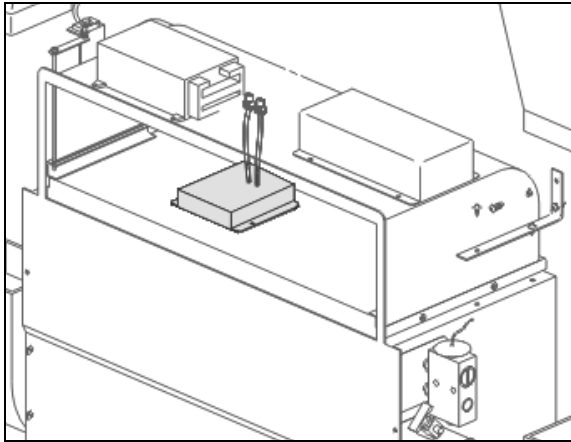

Figure 3 : Thermostat
2. Unplug and discard thermostat unit. (Fig 3)